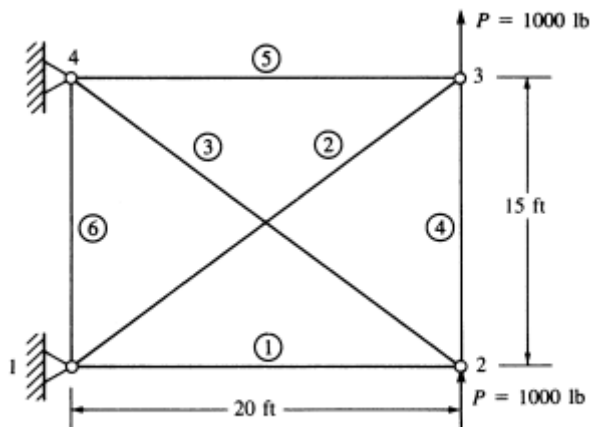

Figure P3–24
3.24 Determine the nodal displacements and the element forces for the truss shown in Figure P3–24. Assume all elements have the same AE .